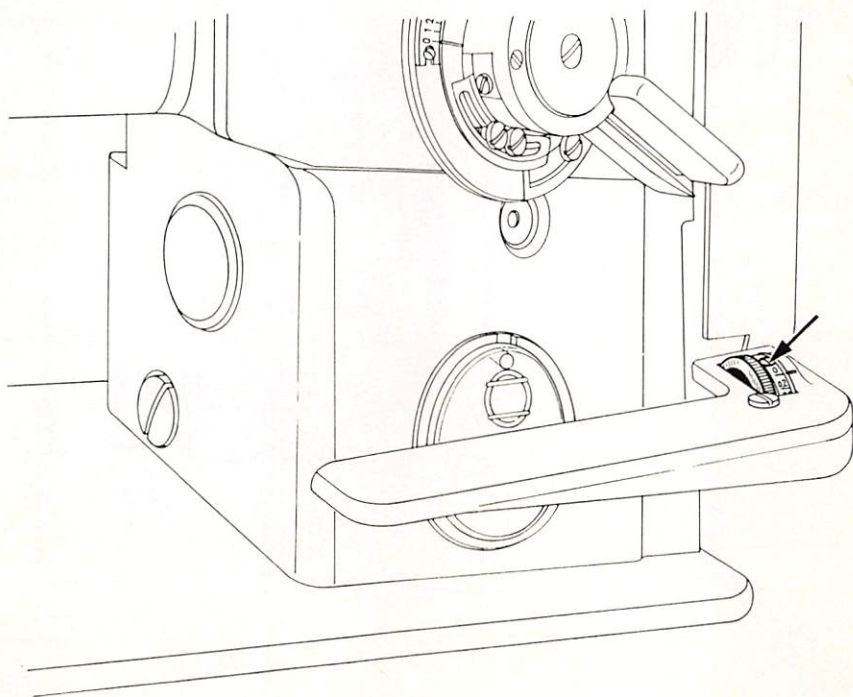

Fig. 12
9. **Adjusting the Stitch Length Scale Ring (Fig. 12)**